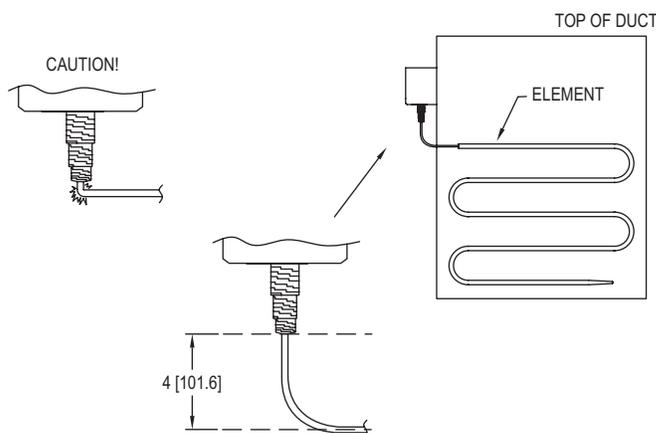

Figure 1: Install capillary in horizontal pattern only
The Series DFS2 Low Limit Temperature Switch can be mounted in any position; however, the case of the controller should be mounted at the top of the coil with the capillary installed in a downwards serpentine fashion across the face of the coil. On manual reset models, position the switch to allow convenient access to the manual reset button. Locate the controller case and bellows where the ambient temperature is always warmer than the set point. The capillary should be exposed to all areas that encounter a low temperature. See Figure 1.
3. Install capillary element in a horizontal serpentine pattern across the duct (as shown in Figure 1) on the down stream side of the cooling coil so it is exposed to areas where low temperature will occur.